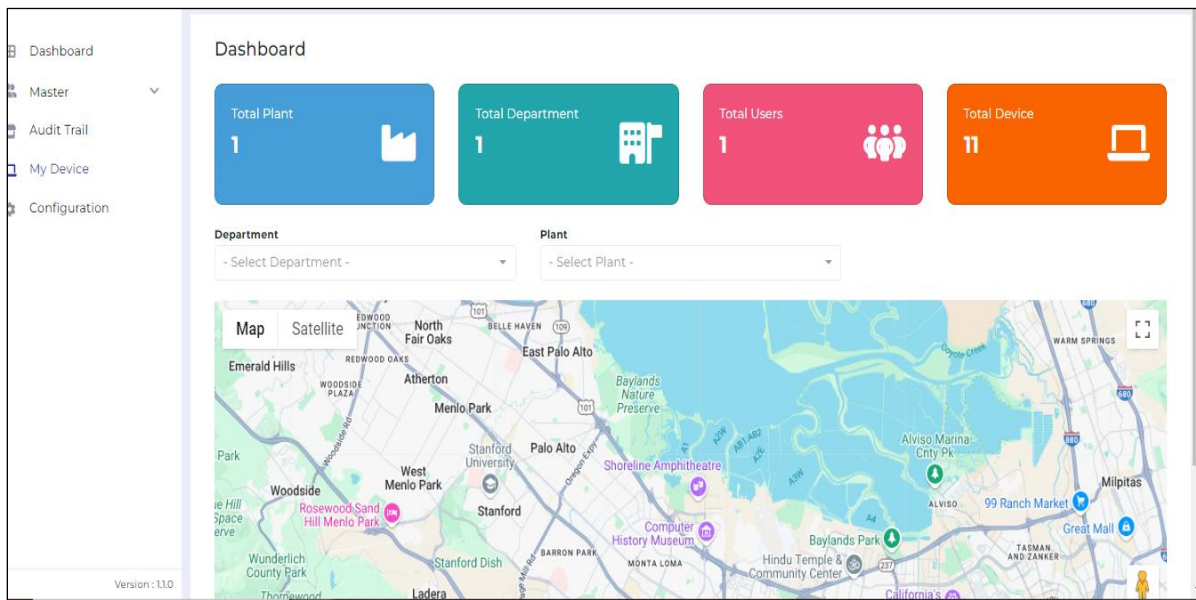

Figure 37 EMS Cloud Application Dashboard
- After Logging in, dashboard will appear as shown in figure 37, where User can see the stats regarding their company plants, department, users and Devices.